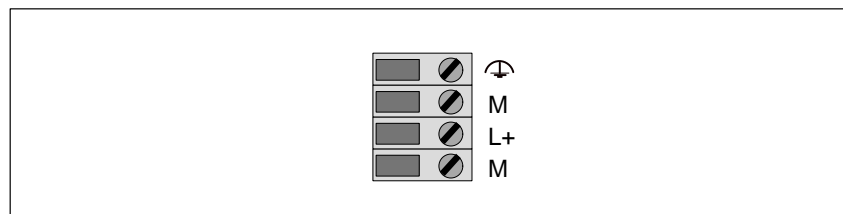

Figure 6-5 Screw-Terminal Front Connector of Expansion Elements
Expansion module EXM 378-2 and mass storage module MSM 378 have a screw-terminal front connector (Figure 6-5). They are wired to the power supply module PS 307 and supplied with +24 V.
3. Insert the other end of the cable in terminals L+ and M (lower M terminal) of the expansion element (Figure 6-5) and tighten them.